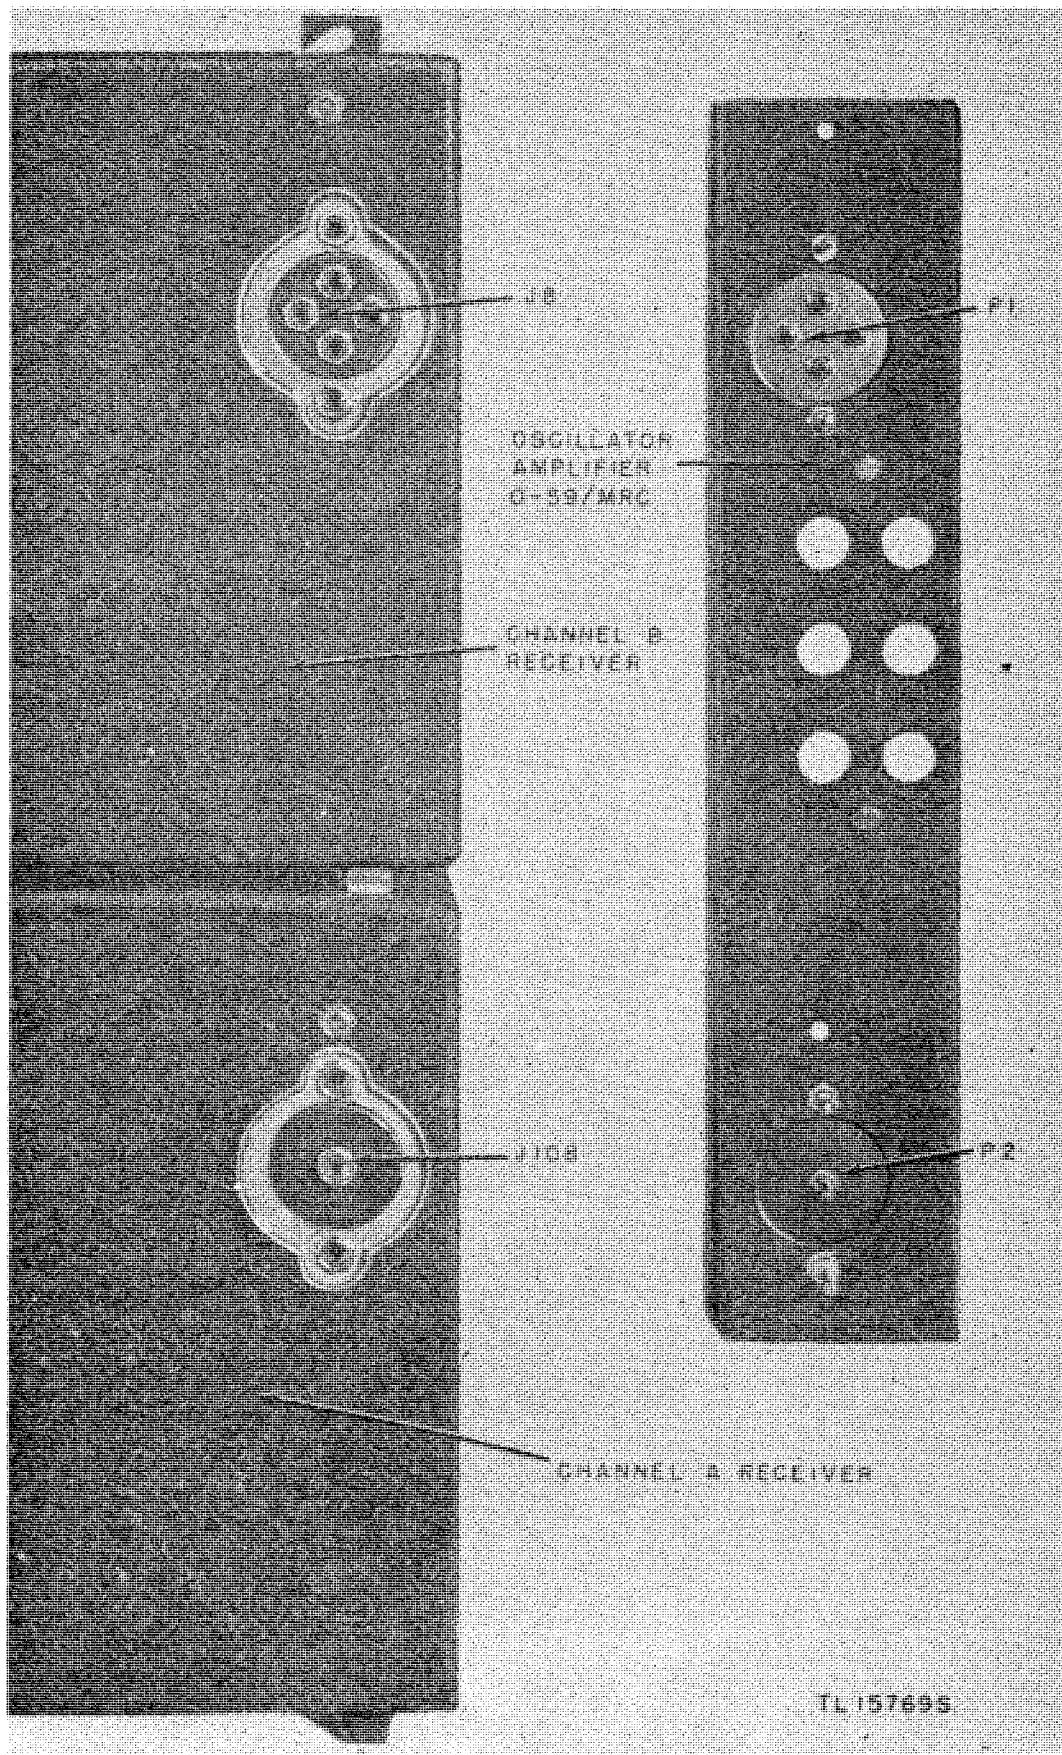
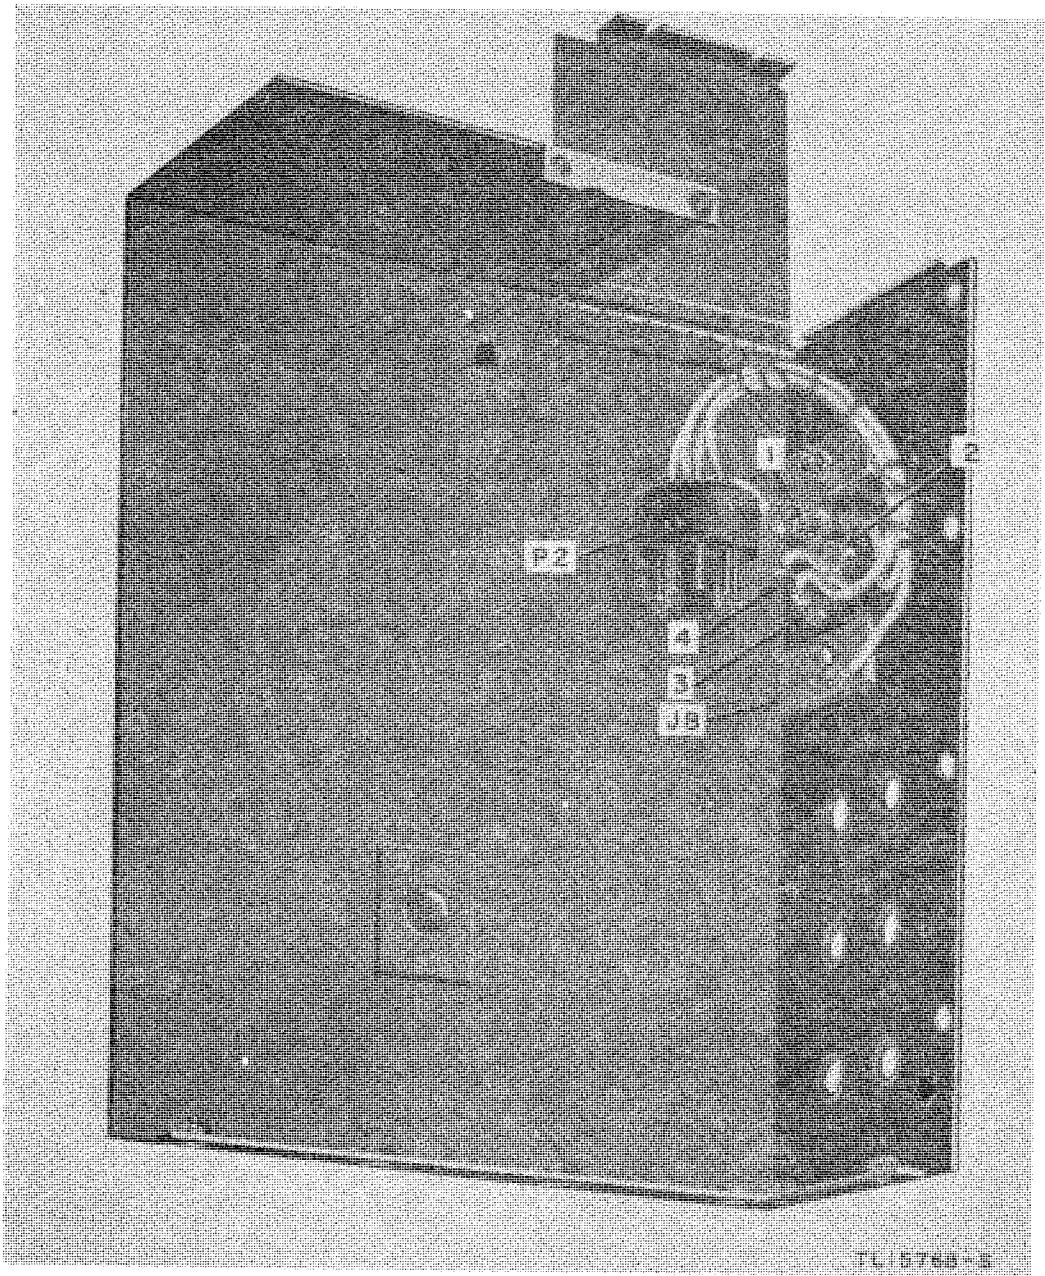

Figure 87 (Added). Oscillator coupling amplifier chassis.
Figure 90 (Added). Channel B Receiver, h-f oscillator compartment.
- b. Mechanically, the amplifier consists of a small chassis provided with plugs P1 and P2 which engage jacks J8 and J108 of Channel B and Channel A Receivers, respectively (fig. 87).
- e. Input to the amplifier from the h-f oscillator in Channel A Receiver is coupled through J108 and P2. Output from the amplifier to Channel B Receiver is coupled through P1, J8 (fig. 87), and P2 (fig. 90).
is inserted into the tube socket of the former h-f oscillator stage and connections are made from P2 to jack J8 mounted at the rear of the oscillator compartment (fig. 90). Jack J8 accommodates plug P1 of the oscillator amplifier.